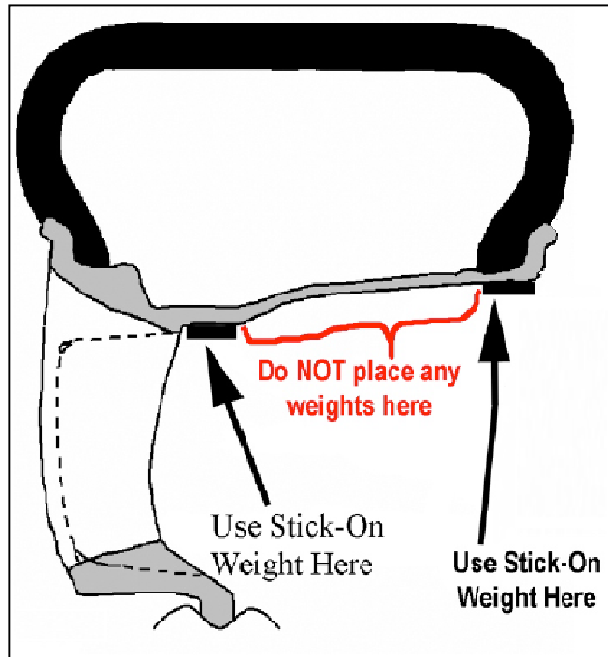

Figure 7a
- a. Mount wheel/tire on wheel balance machine & balance in DYNAMIC MODE. Enable the LOAD ROLLER, if applicable, to ensure proper bead seating. Road Force not to exceed 25lbs. See Figures 7a, 7b, and 7c.